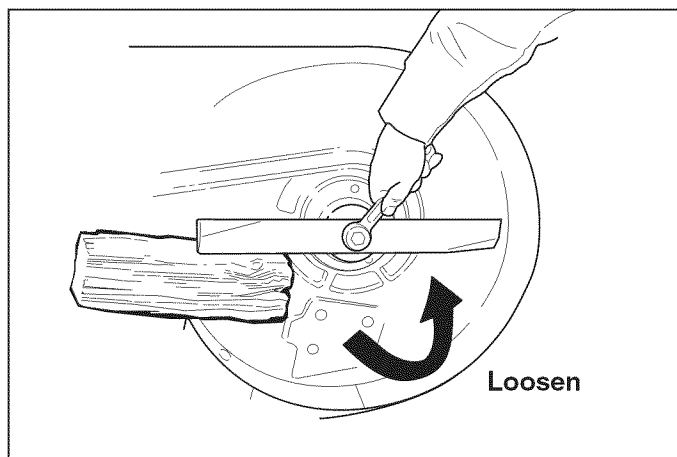

Figure 12. Blade Removal
2. To remove blade for sharpening, use a block of wood to prevent blade rotation while loosening the cap-screw (see Figure 12).